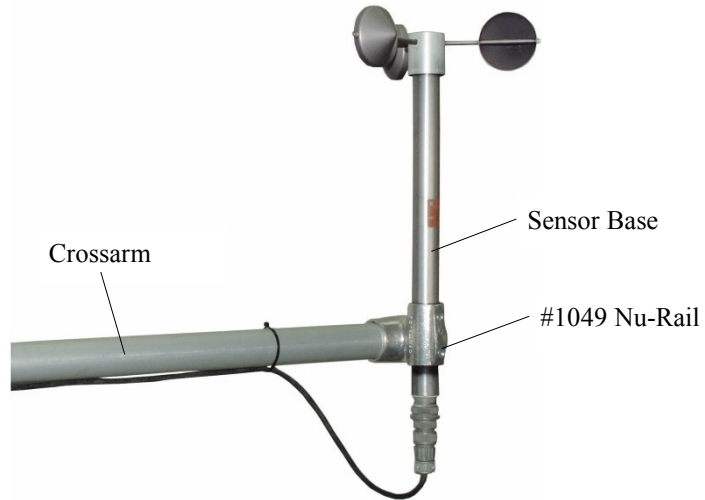
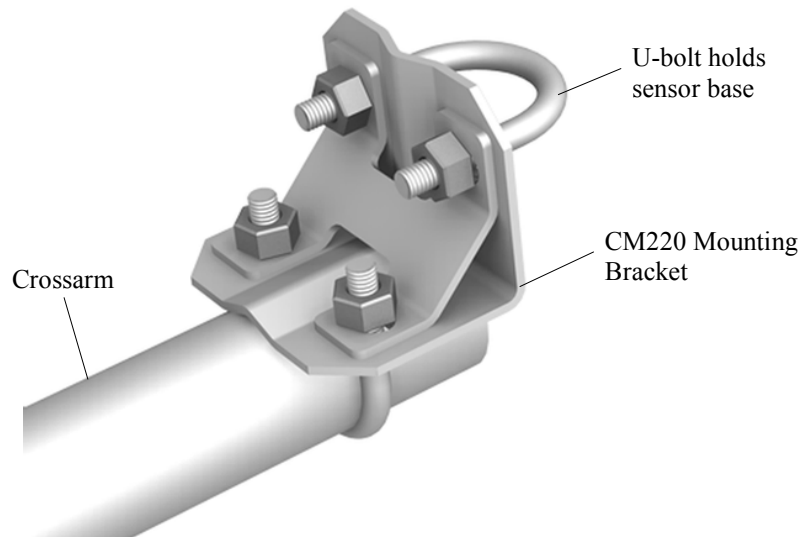

FIGURE 7-3. 014A mounted on a crossarm with pn #1049
FIGURE 7-4. CM220 Right Angle Mounting Bracket
2. Orient the crossarm North-South, with the CM220 (FIGURE 7-4) or 1049 Nu-Rail (FIGURE 7-3) on the north end.
3. Insert the base of the 014A into the Nu-Rail or CM220 U-bolt (FIGURES 7-3 and 7-4) and tighten the set screws on the Nu-Rail, or U-bolt on the CM220 (do not over tighten).